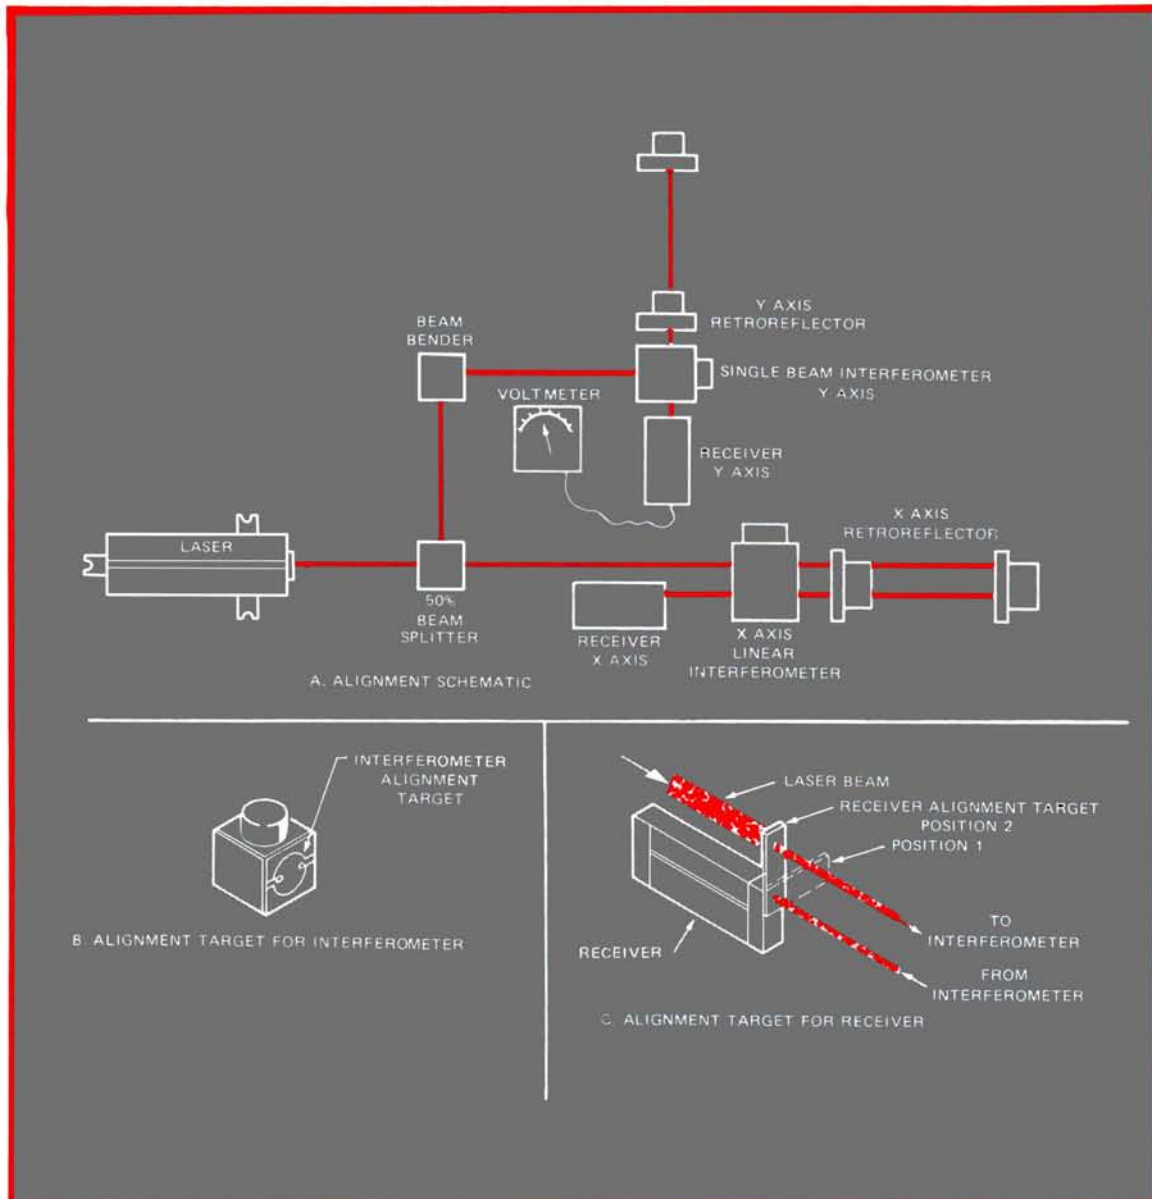
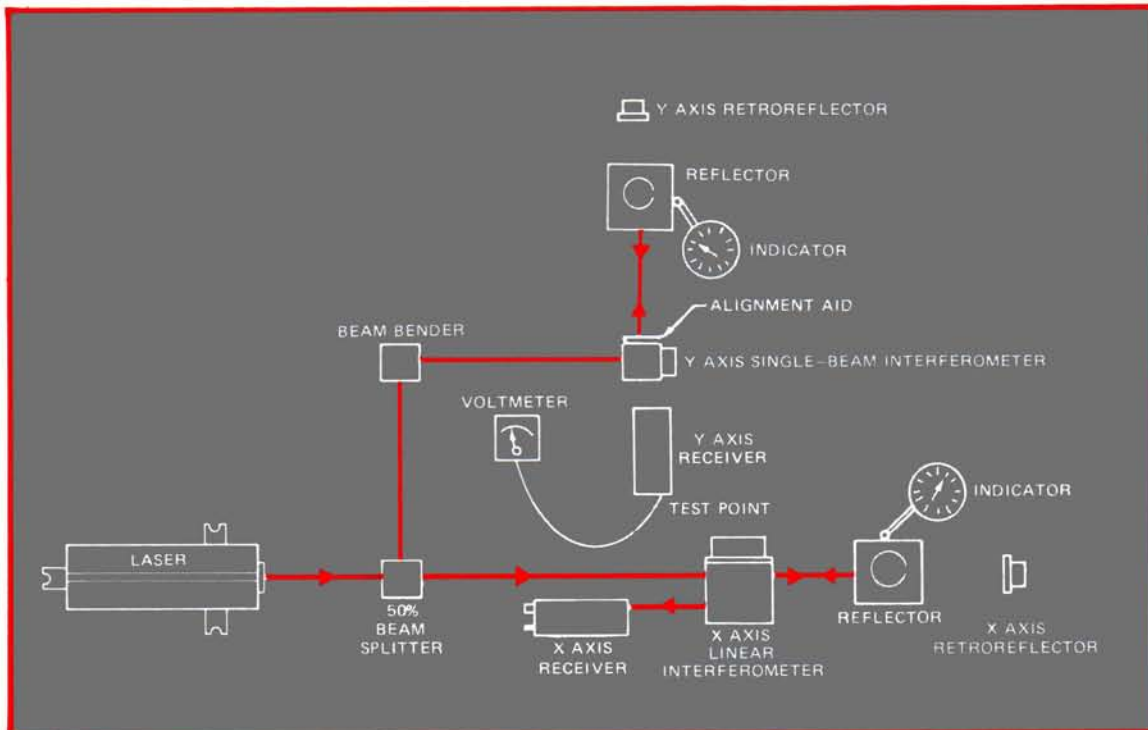

Figure 2-53. Visual Alignment
Figure 2-54. Autoreflexion Alignment
The techniques describing the two-axis visual alignment procedure can be followed for almost any measurement configuration. *Figure 2-53* is a typical measurement configuration which includes a linear interferometer and a single beam interferometer. In general, when the optical components are installed on the machine, their optical centerlines will be nominally in the correct relationship and only minor adjustments should be required.
When starting the adjustment procedure, one-axis at a time is adjusted. The first axis to be adjusted is the axis where any angular adjustment of the laser beam requires adjustment of the 5501A Laser Transducer (see X-axis, *Figure 2-53*). After angular adjustment, the laser head is locked down and any angular adjustment of the laser beam in the other measurement axes is accomplished by rotating the optical components. For visual alignment of the measurement system in *Figure 2-53*, perform the following procedure:
*Figure 2-54* shows a measurement setup similar to *Figure 2-53* except that the autoreflexion technique is used for alignment.
For autoreflexion alignment of the measurement system in Figure 2-54, perform the following procedure:
16. Place alignment aid over output aperture of single beam interferometer as shown in Fig. 2-54. Edges of alignment aid must be parallel to sides of single beam interferometer housing. Adjust the single beam interferometer angularly until the return beam reflected from the reflector returns and is centered on the small aperture of the laser head. Slight lateral adjustments of the interferometer may be required to ensure that the reference beam from the interferometer is centered on the receiver alignment target. Do not adjust the laser head.